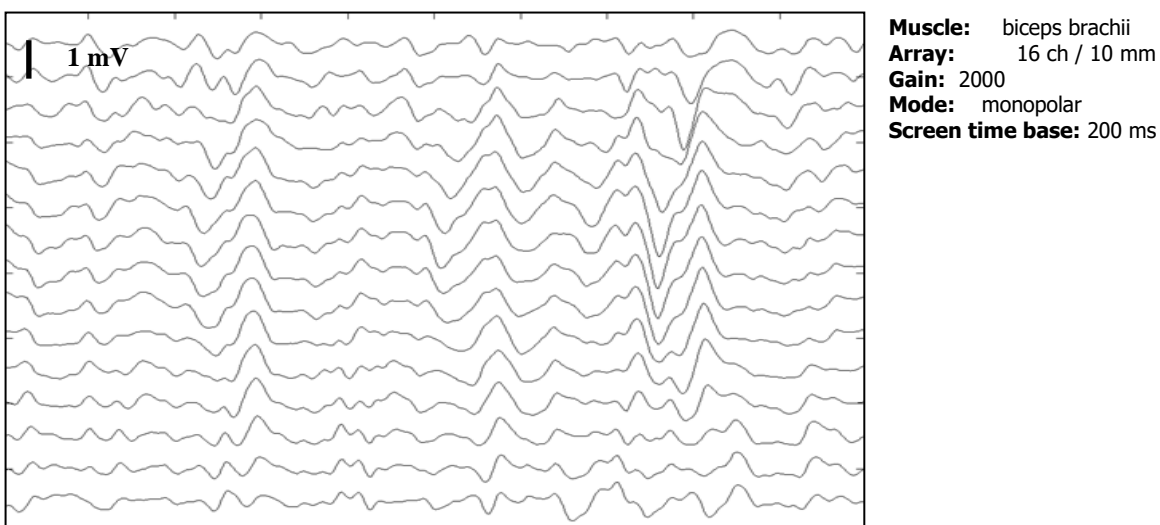

FIG. 19: Example of a good quality EMG monopolar signal
- Ask the patient to contract the muscle to test the signal quality. A monopolar mode signal correctly acquired appears as the signal shown in FIG. 19. In case of high level interference try to use the DRL OUT strap (FIG. 13) or refer to section 9. *TROUBLESHOOTING*.